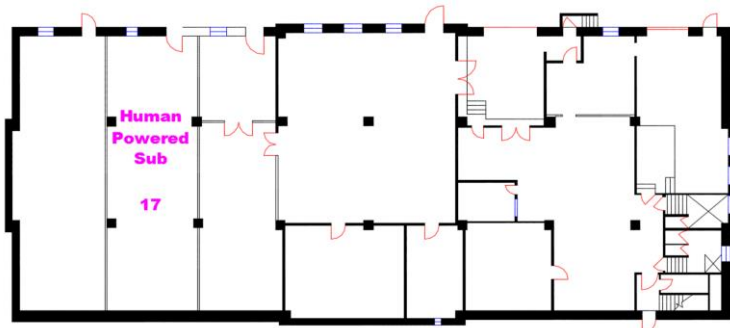

Figure 2 – Ware Lab Human Powered Submarine Bay.
- b) Basement – (Room 18) – Fig. 2.